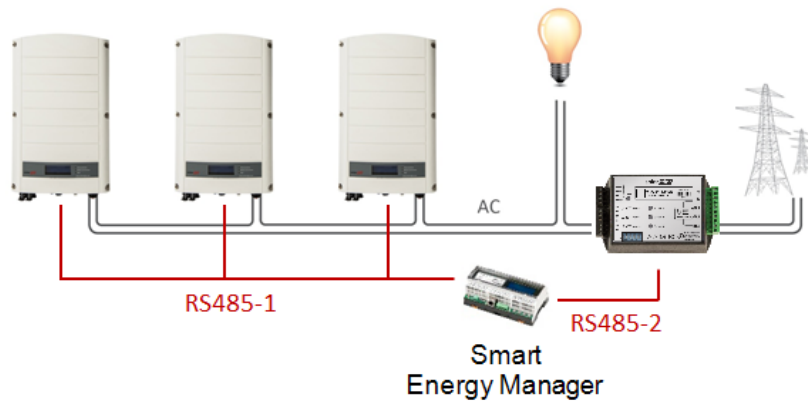

Figure 6: Multi-inverter connection with CCG, RS485 meter and RS485 communications
- The meter is connected to one of the RS485 ports of a CCG. The CCG is the smart energy manager. The CCG's second RS485 port can be used to create an RS485 bus for communication between the inverters. This option is illustrated in Figure 6.